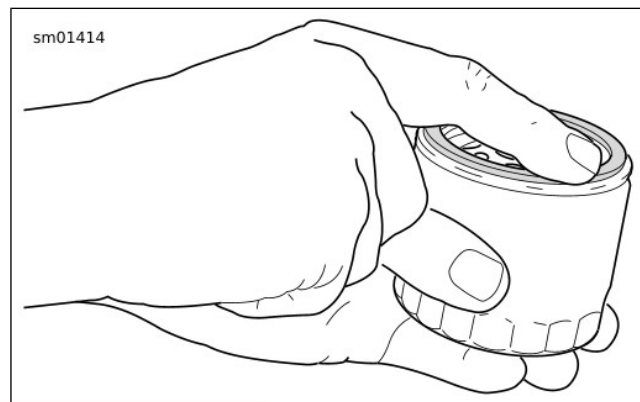

Figure 54. Lubricating New Oil Filter Gasket
7. See Figure 54. Install **new** oil filter.